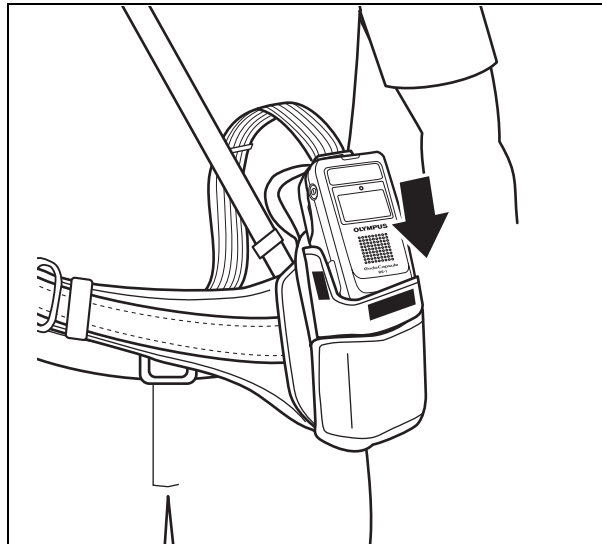

Figure 5.37
6. Insert the recorder unit into the recorder unit pouch, with its display panel facing outward (see Figure 5.37).